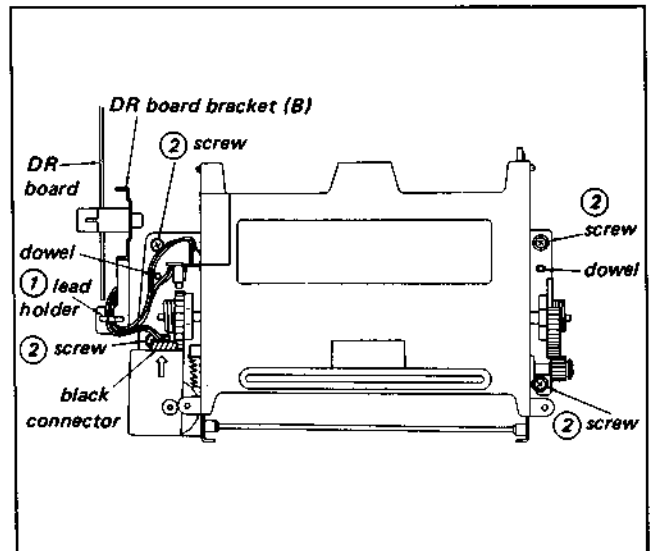

Fig. 3-11. Replacement of front loading ass'y (cassette lift ass'y)
- 3) Remove the wires from the skeleton switch to the TT-5 board from the wiring holder ① and remove the four screws ②.
- 4) See Fig. 3-11 for re-installation of the front loading.